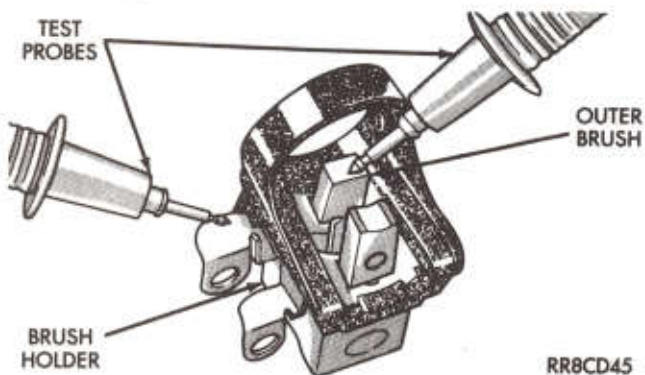

Fig. 2—Test Outer Brush Continuity
(3) Repeat step 2 on the outer brush (Fig. 2).